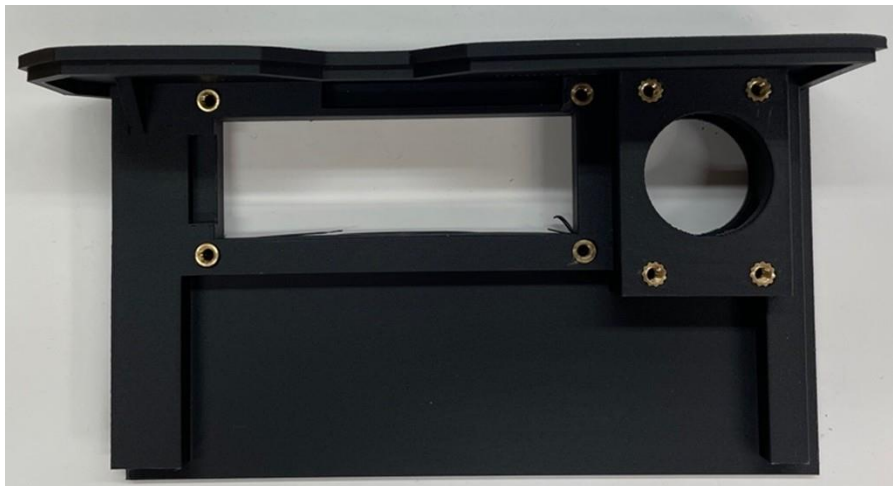

Figure 2.2- Device with heat inserts installed.
1. Install heat inserts using the soldering iron as shown in Figure 2.2.